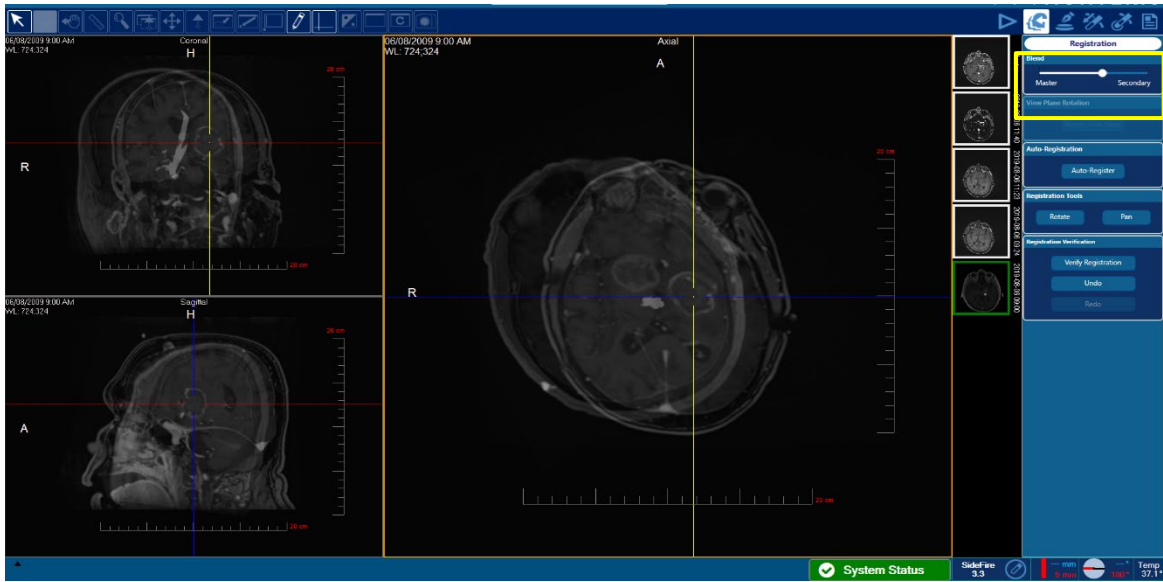

Figure 8.1.24: Using the Blend tool to assess registration accuracy
- Use the *Blend* slider bar in the right menu bar to blend the imported data set into or out of the Master series (yellow box Figure 8.1.24)